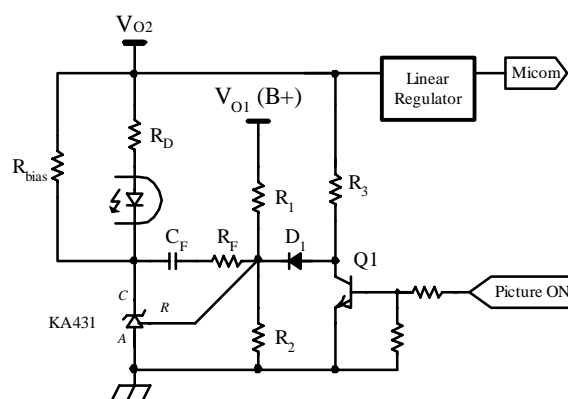

Figure 10. Typical feedback Circuit for FPS Burst Operation
**6. Burst operation :** In order to minimize the power consumption in the standby mode, the FSES0765RG employs burst operation. Once FSES0765RG enters into burst mode, effective switching frequency and all output voltages are reduced. Figure 10 shows the typical feedback circuit to force the FSES0765RG to enter burst operation. In normal operation, the picture on signal is applied and the transistor Q1 is turned on, which de-couples R3 and D1 from the feedback network. Therefore, only  $V_{O1}$  is regulated by the feedback circuit in normal operation and determined by R1 and R2 as